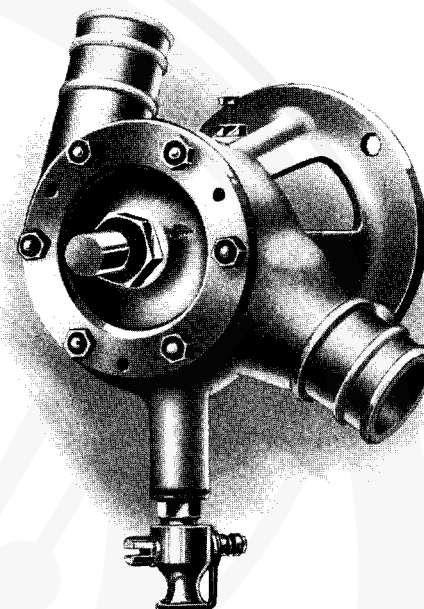

Fig. 12. Water Pump.
*Water Pump and Circulation.* The centrifugal water pump Fig. 12 is driven off one end of the cross shaft. The suction on the rotor is balanced by dividing the suction pipe and leading half of the feed water in on each side; by this arrangement the necessity for a packing gland is eliminated. In order to prevent leakage when standing the rotor is maintained in position against its seat by means of a spring loaded plunger. The pump spindle bearing is lubricated by oil thrown from the crankshaft, the oil supply being regulated by means of a small screw regulator. Delivery from the pump passes direct into the cylinder jacket and thence through the cylinder head to the radiator. Interposed between the cylinder head and radiator is a thermostat which automatically controls a valve, by means of which the water temperature is regulated and the engine attains an efficient temperature a few minutes after starting.